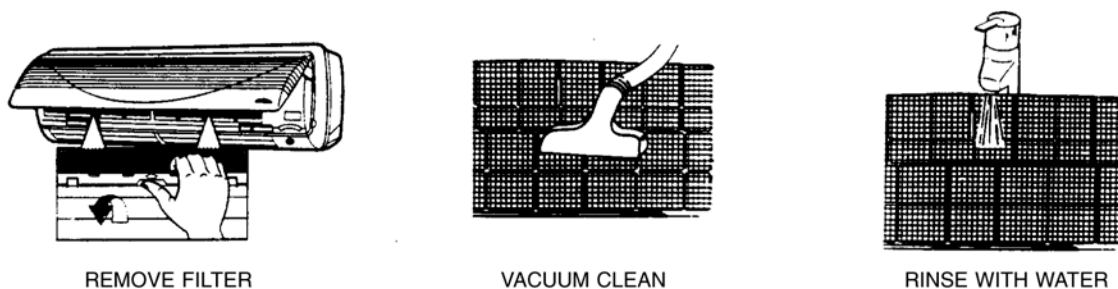

Fig. 19 — Fan Coil Unit Air Filter Maintenance
1. Open fan coil unit front panel (lift). See Fig. 19.
Filters should be vacuumed and washed with warm water (see Fig. 19). Shake filter to remove any excess water, dry